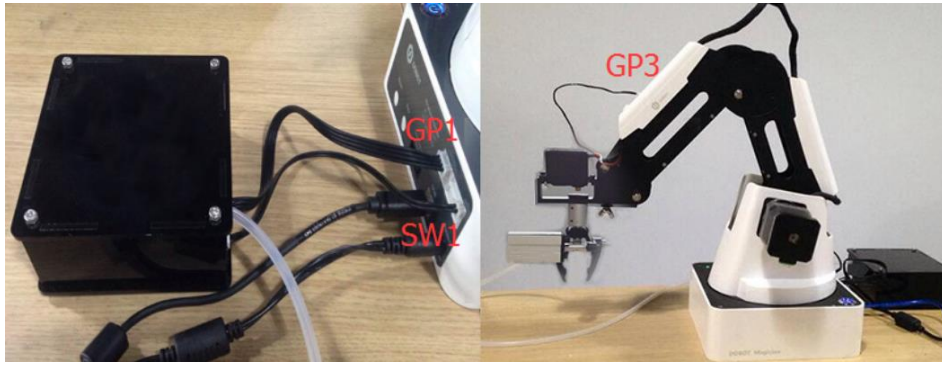

Figure 5.14 The effect of the gripper kit installation
- Step 3** Connect the gripper kit and an air pump to the Dobot Magician in the same way as the suction cup kit is installed. For details, see *5.2.1 Installing a Suction Cup Kit*. Figure 5.14 shows the effect of the gripper kit installation.